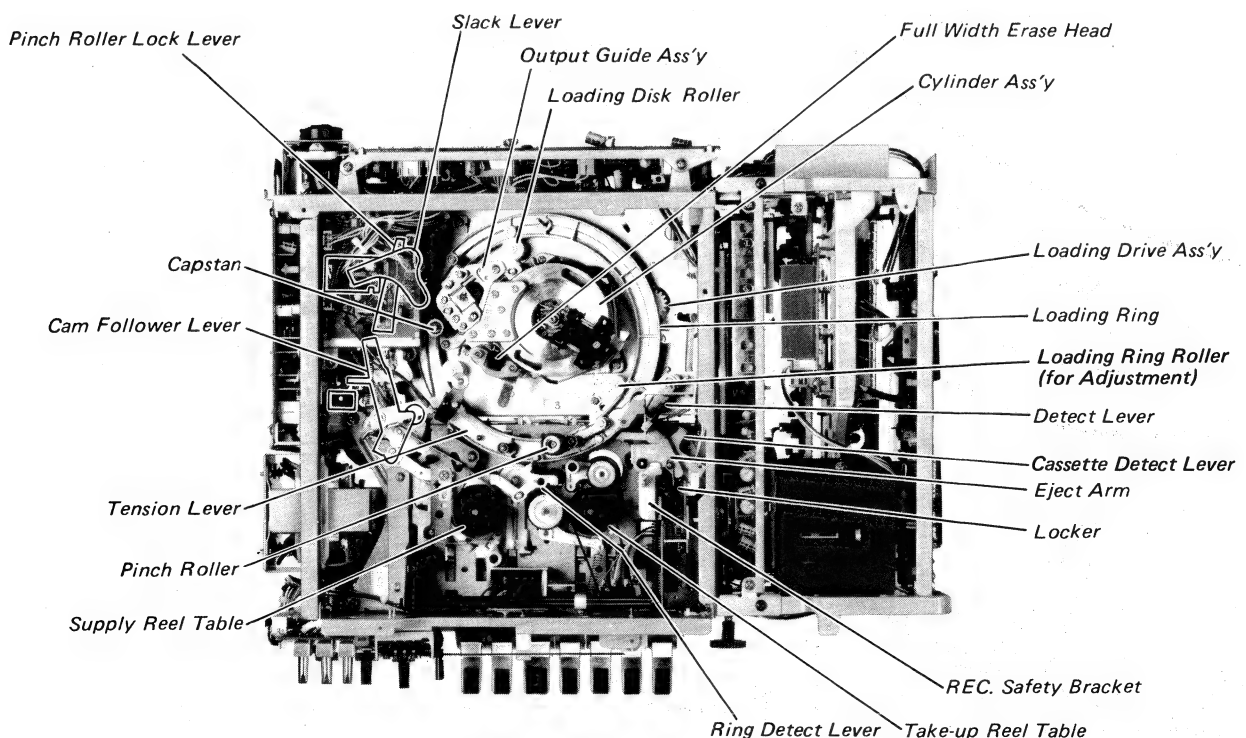

Fig. 5-6 Parts Designation
When a cassette is inserted into the cassette compartment and pressed down in place to lock, the lead switch passes the loading signal. The signal drives the loading motor and actuates the gears in the loading drive assembly. The gears drive the loading ring held on the loading disk roller. While the loading ring turns, the loading guide post, pinch roller, and first, second, and third tape guide posts that are mounted on the loading ring bring the tape out from the cassette gradually. The tape, then, is arranged in place on the tape transport system in the order of the inlet guide and full width erase heads, cylinder, audio control head, and outlet guide. (see Figs. 5-6, -10.)
On the loading ring is a grooved cam way, along which the cam follower lever is guided to bring the tape out to a specified position. At the end of tape loading, the cam follower lever comes into the concave section on the cam way. The lever, then, presses the loading end detection switch, which produces a loading end signal. The signal stops the rotation of the gears on the loading drive assembly. (see Figs. 5-6, -8, -10.)
(5) Drive mechanisms (see Figs. 5-6, -7)